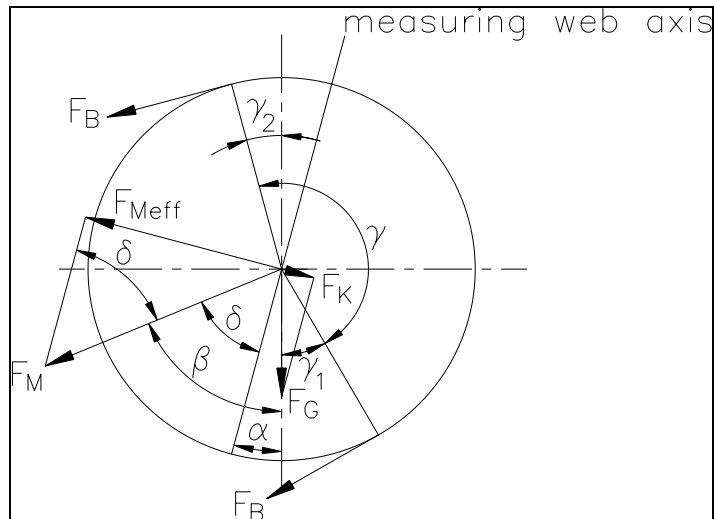

fig. 11: Force vectors in the FMS force measuring bearing C431012e
- F_{Calib} applied calibration load [N or lbs] (refer to fig. 11)